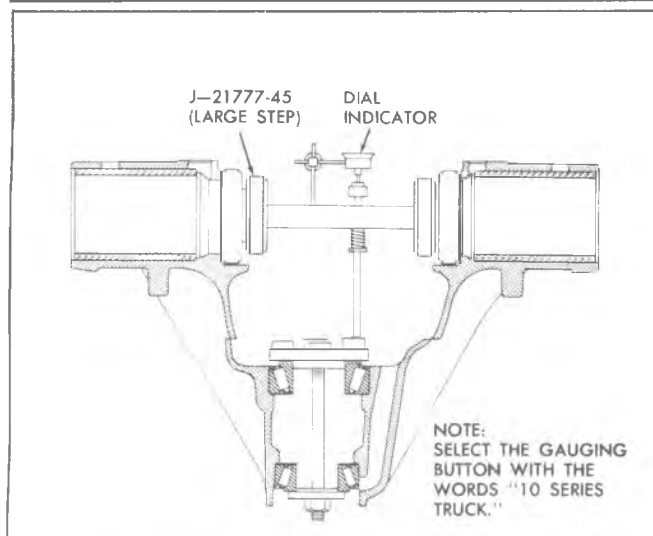

Fig. 20B—Gaging Tools Installed in Carrier
11. Rock the plunger rod slowly back and forth across the button until the dial indicator reads the greatest deflection. At this point, set the dial indicator to zero. Tools will now be positioned as shown in figure 20B.